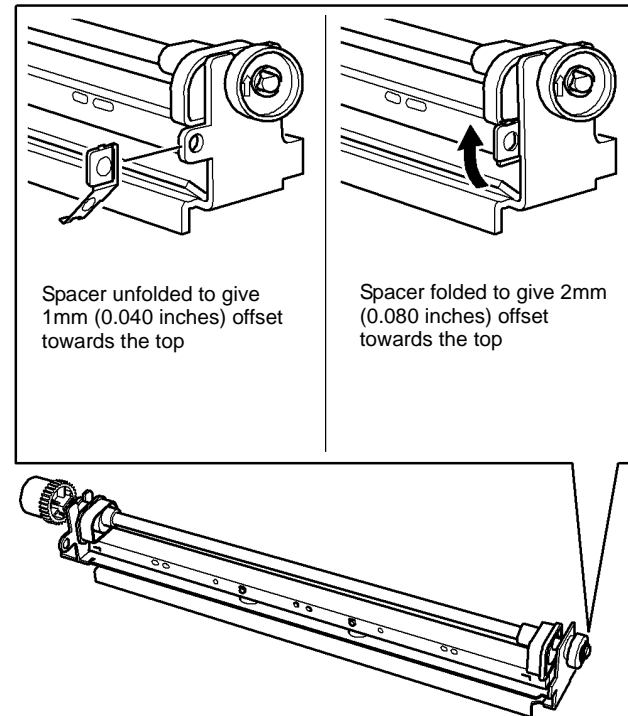

Figure 2 Hole punch spacer
2. Pull out the hole punch assembly a short distance to access the spacer, if installed, refer to Figure 2. The following settings can be made: